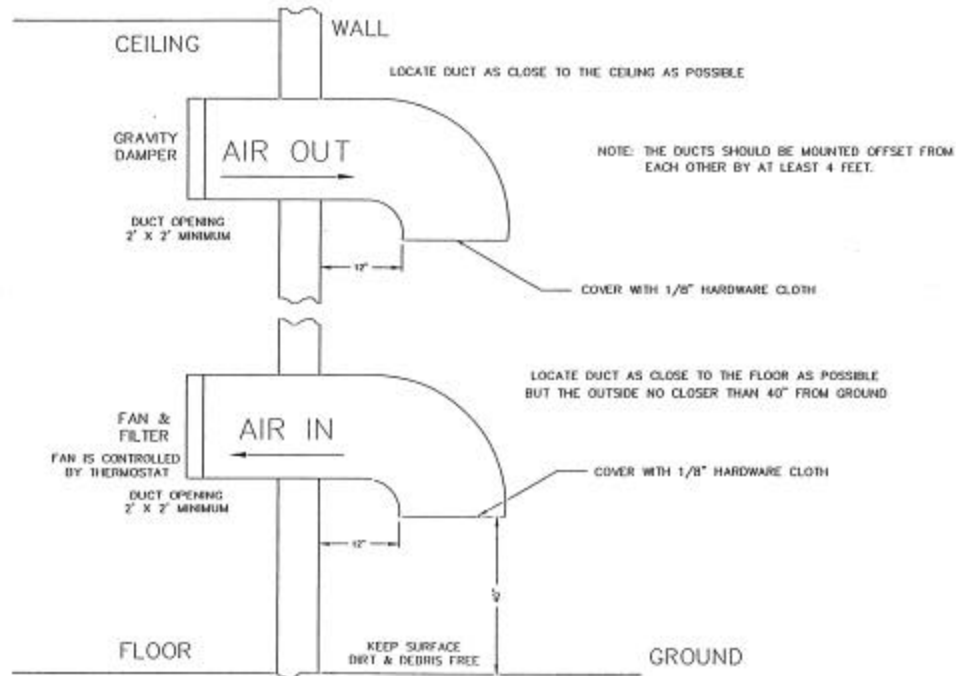

Figure 3-1. 1 kW Minimum Ventilation Configuration
| <p>5. The exhaust should be located as high as possible. Some ducting is usually required to insure the complete flushing of heated air with no stagnant areas.</p> <p>6. The filter area must be large enough to insure a maximum air velocity of 300 feet per minute through the filter. This is not a conservative number but a never-exceed number. In a dusty or remote location, this number should be reduced to 150 CFM.</p> <p>7. The inlet and outlet(s) must have automatic dampers that close any time the ventilation blower is off.</p> <p>8. In those cases in which translators are regularly off for a portion of each day, a temperature-differential sensor that controls a small heater must be installed. This sensor will monitor inside and outside temperatures simultaneously. If the inside temperature falls to within 5° F of the outside temperature, the heater will come on. This will prevent condensation when the ventilation blower comes on and should be used even in the summer.</p> <p>9. A controlled-air bypass system must be installed to prevent the temperature in the room from falling below 40° F during translator operation.</p> <p>10. The blower should have two speeds, which are thermostatically controlled, and be interlocked with the translator.</p> <p>11. The blower on high speed must be capable of moving the required volume of air into a half inch of water pressure at the required elevation. The free air delivery method must not be used.</p> | <p>12. Regular maintenance of the filters, if used, can not be overemphasized.</p> <p>13. Above 4000 feet, for external venting, the air vent on the cabinet top must be increased to an 8-inch diameter for a 1-kW translator and to a 10-inch diameter for 5-kW and 6-kW translators. An equivalent rectangular duct may be used but, in all cases, the outlet must be increased by 50% through the outlet screen.</p> <p>14. It is recommended that a site plan be submitted to Axcera for comments before installation begins.</p> <p>In calculating the blower requirements, filter size, and exhaust size, if the total load is known in watts, 2000 CFM into ½ inch of water will be required for each 5000 watts. If the load is known in BTUs, 2000 CFM into ½inch of water will be required for each 17,000 BTUs. The inlet filter must be a minimum of seven square feet, larger for dusty and remote locations, for each 5000 watts or 17,000 BTUs. The exhaust must be at least four square feet at the exhaust screen for each 5000 watts or 17,000 BTUs.</p> <p>The information presented in this section is intended to serve only as a general guide and may need to be modified for unusually severe conditions. A combination of air conditioning and ventilation should not be difficult to design (see Figure 3-1).</p> <p>System interlocking and thermostat settings should be reviewed with Axcera. As with any equipment installation, it is always good practice to consult the manufacturer when questions arise. Axcera can be contacted at (724) 873-8100</p> |